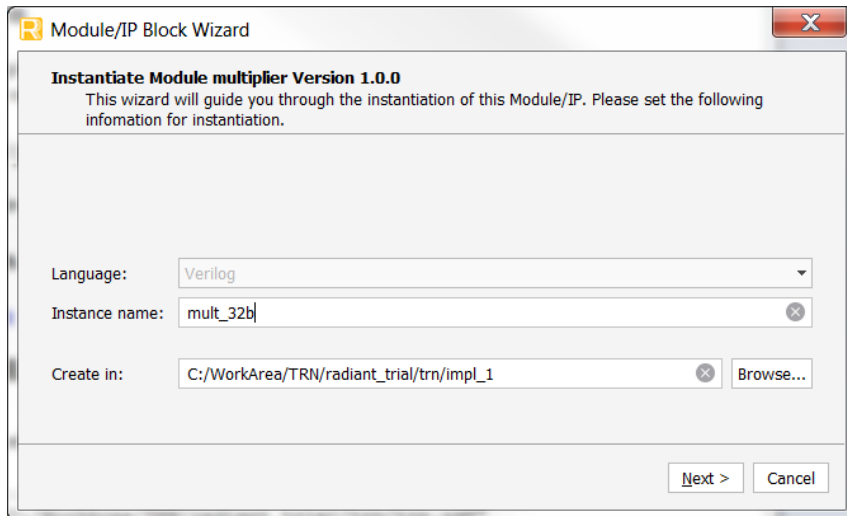

Figure 3.2. Example: Generating 32-bit Multiplier Using Module/IP Block Wizard
2. Fill out the following information then click **Next**. An example is shown in Figure 3.2.